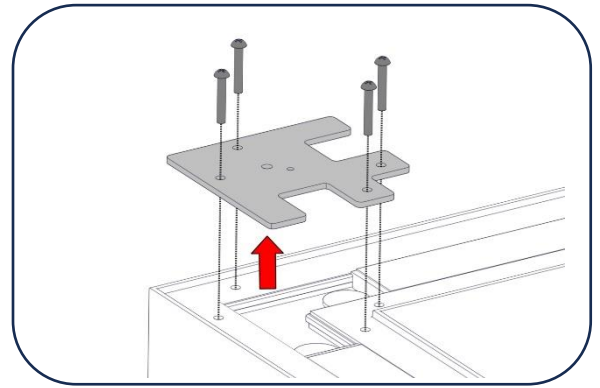

Figure 1
1. Remove the **Corner Bracket**. [Figure 1]